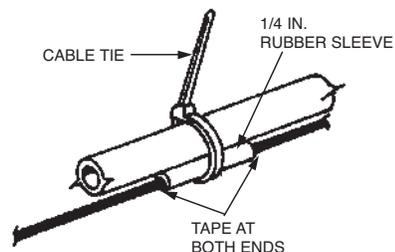

FIGURE 25
3. Secure the detection wire by completing the following steps: See Figure 25.
- b. Secure the wire at least once immediately before it passes through a hole in a vertical or horizontal surface. At the hole, a 1/4 in. (6 mm) rubber sleeve, Part No. 56692, or a special grommet to fit the hole should be used to protect the wire from wear due to vibration. If the rubber sleeve might slide from under the cable tie and off the wire, tape the rubber sleeve to the wire using electrician's tape to keep it from sliding (see Figure 25). This hose protection should also be used at locations where the wire would rub against other hard surfaces, rough edges, or sharp corners.